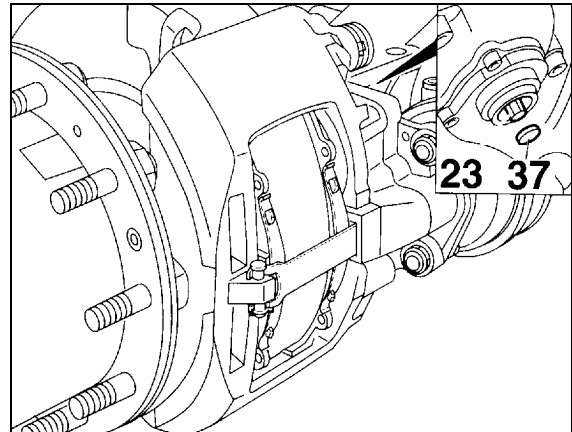

FIGURE 26: ADJUSTER PINION 12120
- a) Remove cap (37, Fig. 26).
- b) Using a box wrench (8 mm), turn the adjuster pinion (23, Fig. 26) counterclockwise about 2 - 3 clicks to increase running clearance. By operating the braking system about 5 - 10 times (30 PSI or 2 bar), the wrench should turn clockwise in small increments if the adjuster is functioning correctly (Figs. 26 and 27).